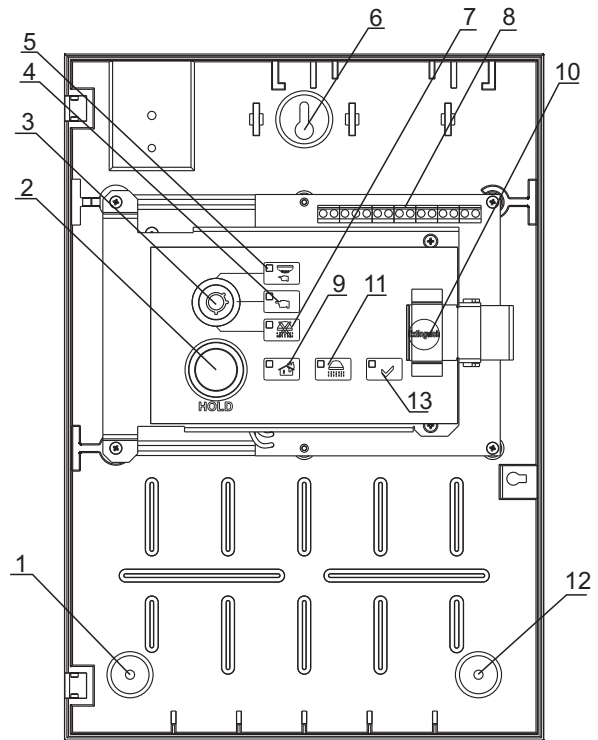
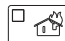

Fig.2
Fig.3
- Fix the module to the dowels through the three openings of the box (pos.1, 6, 12, fig.2);
All signal and power cables are connected using the terminals (pos.8, fig.2), mounted on the printed-circuit board (fig.3).